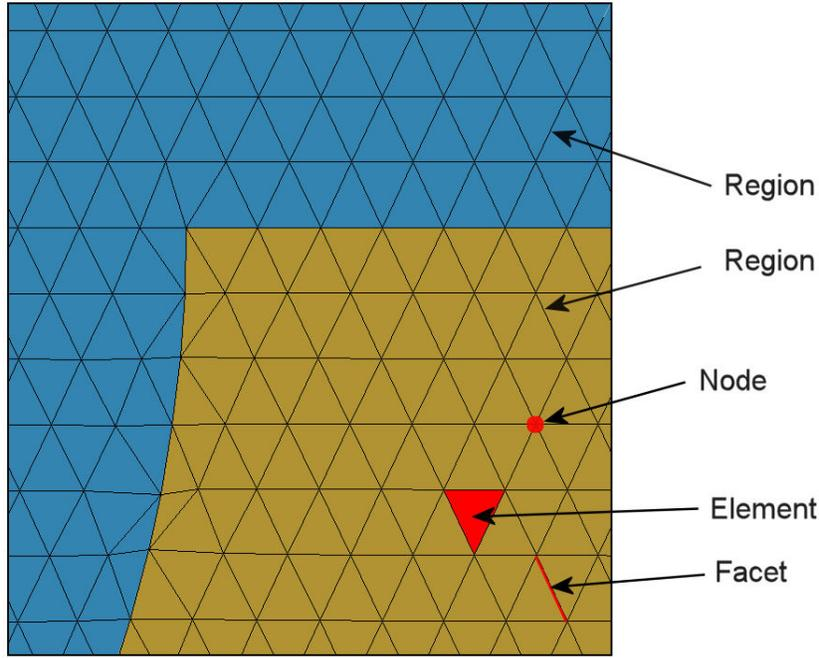

Figure 2: Conformal triangular mesh – definition of terms.
much less than the scale length for variations of field quantities. The division of the volume is called the *computational mesh*. Figure 2 shows the type of mesh used for the two dimensional solutions of **PerMag**. The figure defines three terms that will be used throughout this manual:
The elements in Fig. 2 have triangular cross-sections. In a planar solution, the cross-section lies in the  $x$ - $y$  plane and the elements extend an infinite distance in the  $z$  direction. In a cylindrical solution, an element is a figure of revolution about the axis with a triangular cross-section in the  $z$ - $r$  plane.
The mesh in Fig. 2 has the important property of *conformality*. The term means that the triangles have been specially shaped to conform to the boundaries between materials (*regions*). As a result, each element has an unambiguous material identity. The finite-element method is based on two approximations: 1) material properties in an element are uniform and 2) elements are small enough so that the field quantities can be approximated by simple interpolation functions. With these assumptions, the governing differential equation can be integrated over elements surrounding a node to yield a linear equation. This equation relates the field quantity at the node to those at the surrounding nodes. The coupled set has one linear equation for each node in the mesh. In **PerMag**, solution of the set representing the Poisson equation in a planar geometry gives the axial component of vector potential  $\mathbf{A}_z$  at each node. In a cylindrical simulation the program calculates the stream function,  $\psi = r\mathbf{A}_\theta$ . We can then perform two-dimensional interpolations to find values at intervening points, or take numerical spatial derivatives to find the components of the magnetic flux density.
- **Mesh** analyzes the boundary specifications and automatically generates a set of conformal triangles such as those of Fig. 2. The program creates an output file that lists the locations of nodes and the identities of elements.